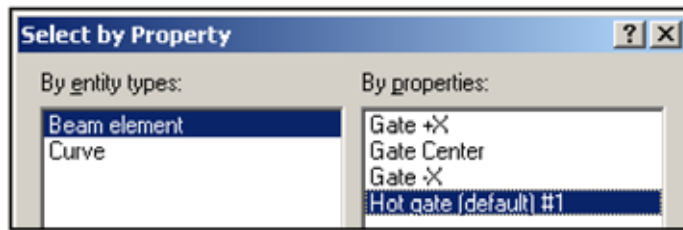

Figure 127: Selecting the hot gate property
- 1.2. Select the property **Hot gate (default) #1**, as shown in Figure 127.